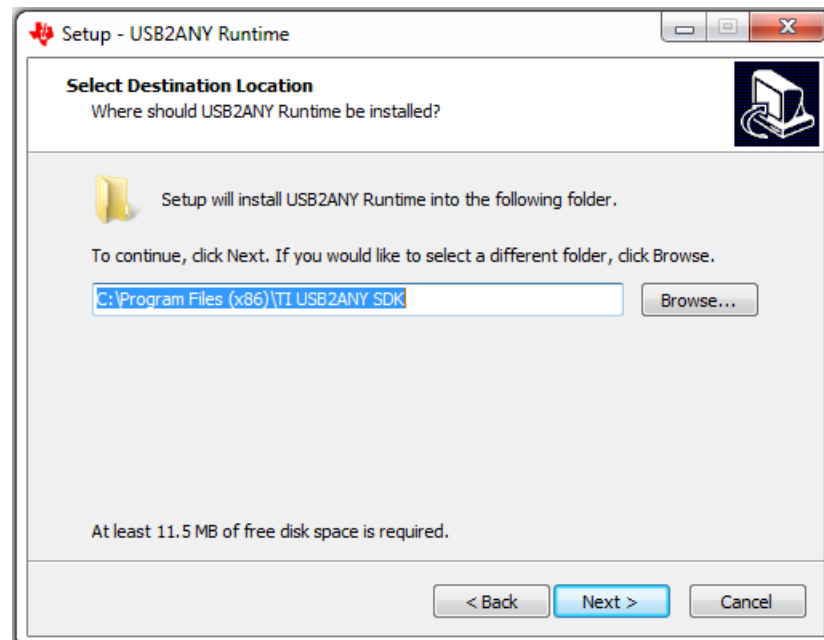

Figure 24. USB2ANY Destination Directory
11. Set the destination directories for the USB2ANY installation and press the *Next >* button as shown in Figure 24.